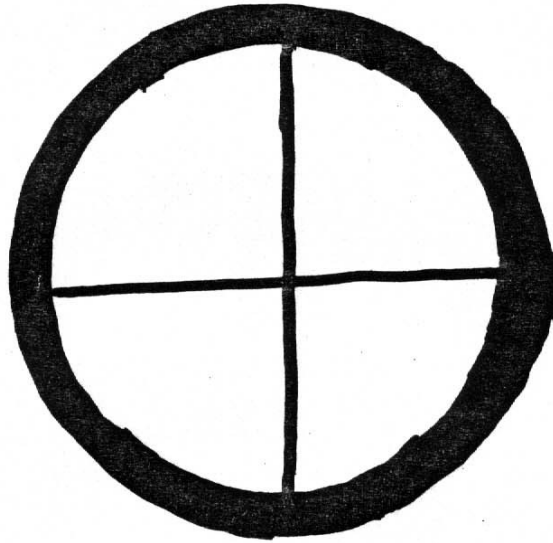

Figure 3-3. Reticle Image
3. Open iris and adjust eyepiece focus ring for sharp reticle image (see figure 3-3).